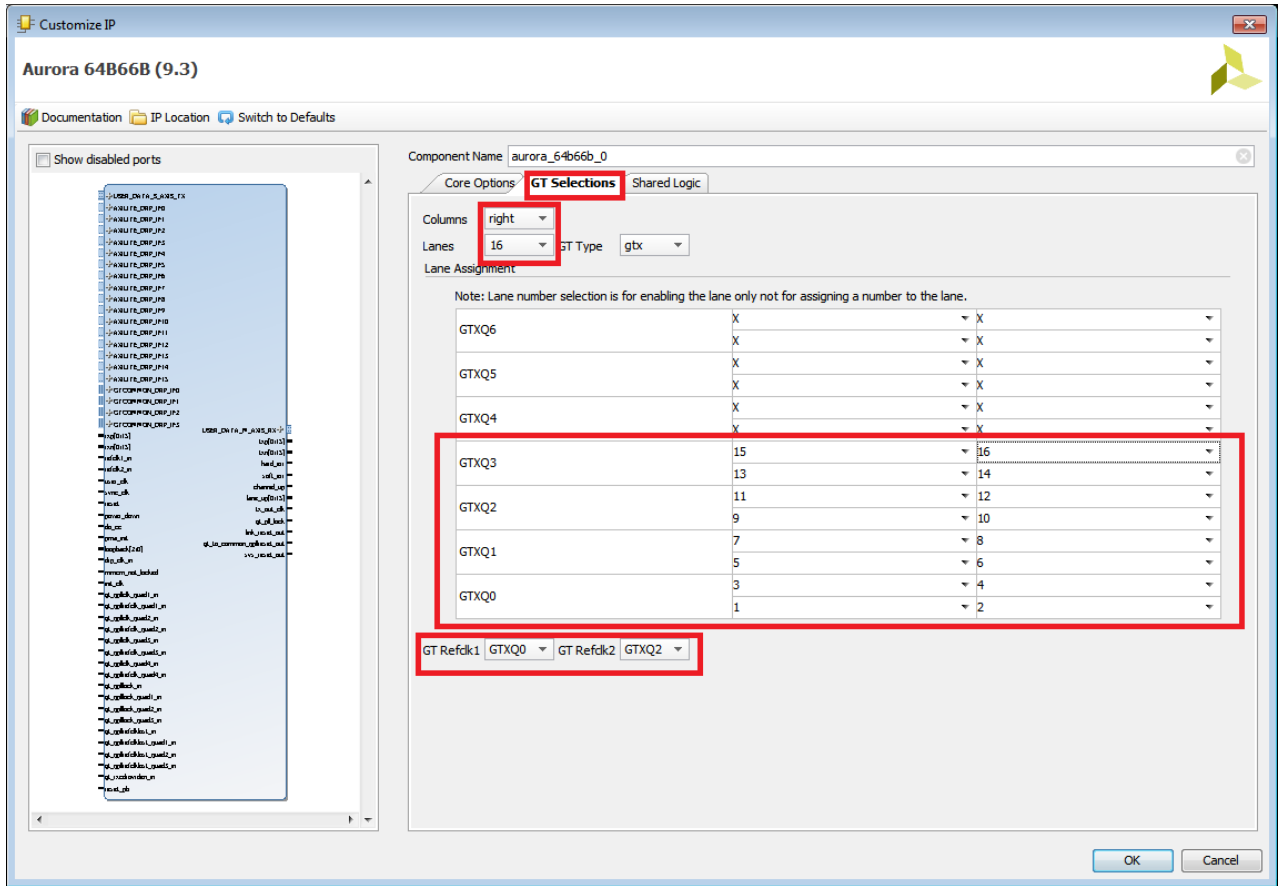

Figure 9: GT Selections Tab
- Click the **GT Selections** tab. Customize to have the Lanes as 16 and select the lane assignment as shown in Figure 9.